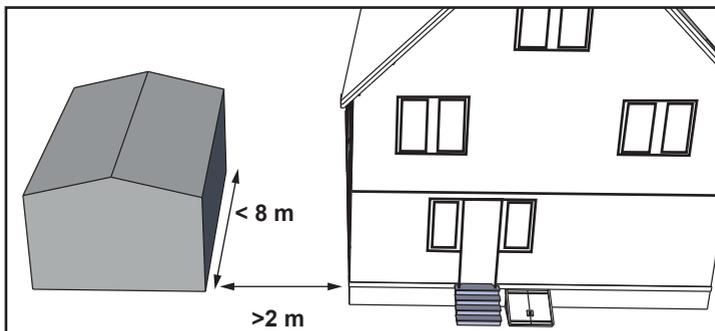

Fig. 10
- Ensure that the layout allows for easy access to the entire mowing area. Avoid creating narrow or inaccessible areas that could hinder the machine's movement (Fig. 10).